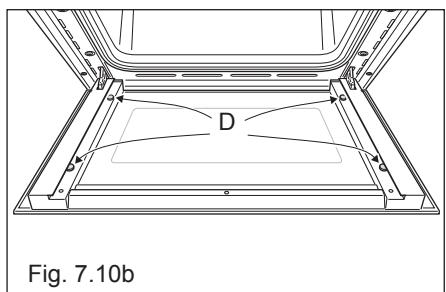

Fig. 7.10b
- Check that the four rubber pads are in place ("D" in fig. 7.10b).